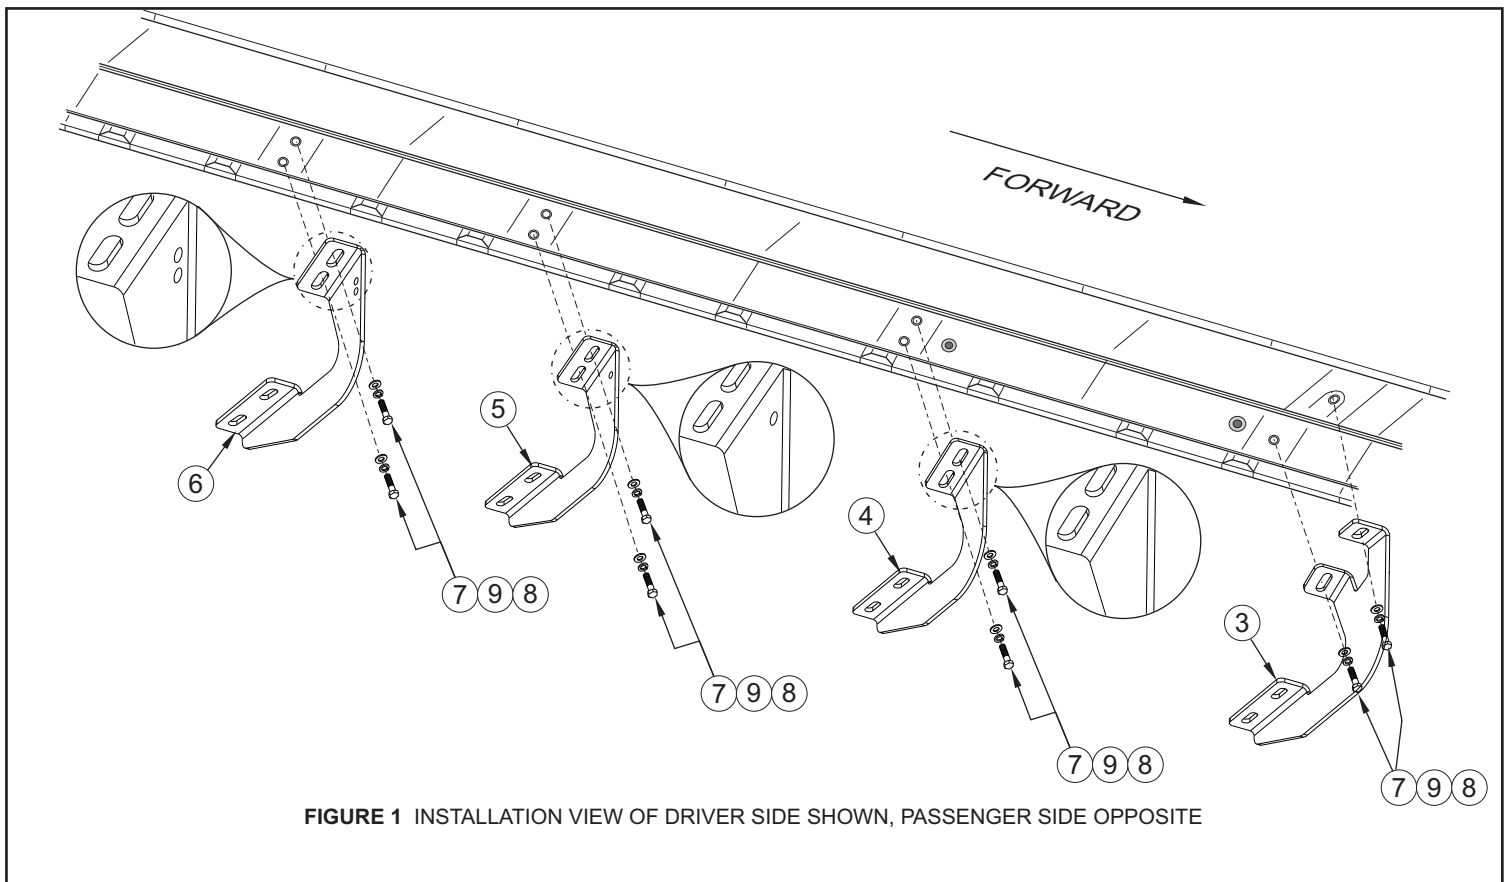

FIGURE 1 INSTALLATION VIEW OF DRIVER SIDE SHOWN, PASSENGER SIDE OPPOSITE
- STEP 2. Determine front, front center, rear center and rear brackets. Rear/center bracket has 1 identification hole and rear bracket has 2 identification holes. SEE FIGURE 1.
- STEP 3. Attach drivers side brackets to underside of body panel using two M8-1.25 x 30mm hex head bolts, M8 flat washers, and M8 lock washers per bracket. Hand tighten. SEE FIGURE 1.